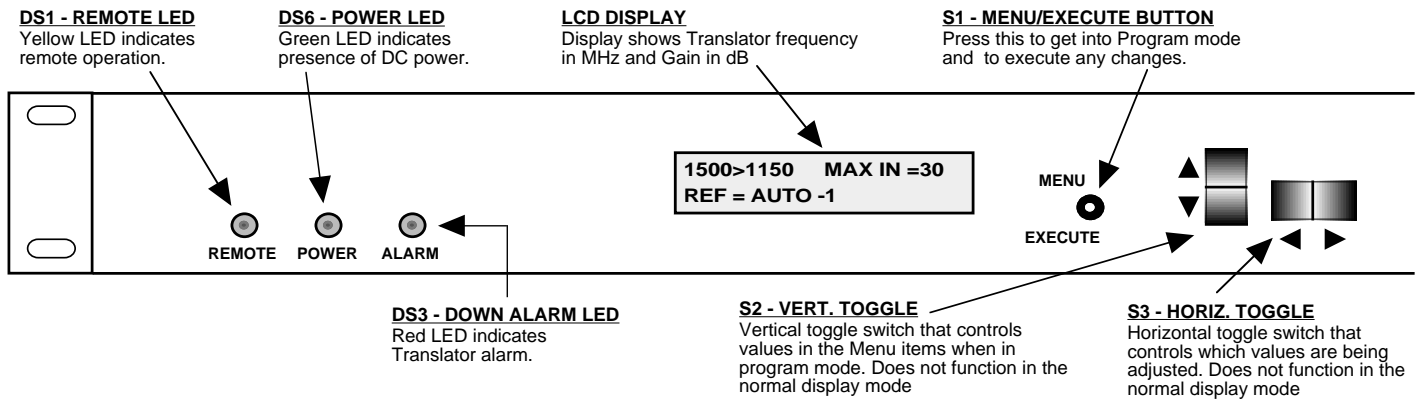

FIGURE 2.3 2083-1310 Front Panel Controls and Indicators
5. Be sure DS6 (green, DC Power) is on and DS (red, Alarm) is off (Figure 2.3).
Alarm indications appear on the LEDs (See figure 2.3).